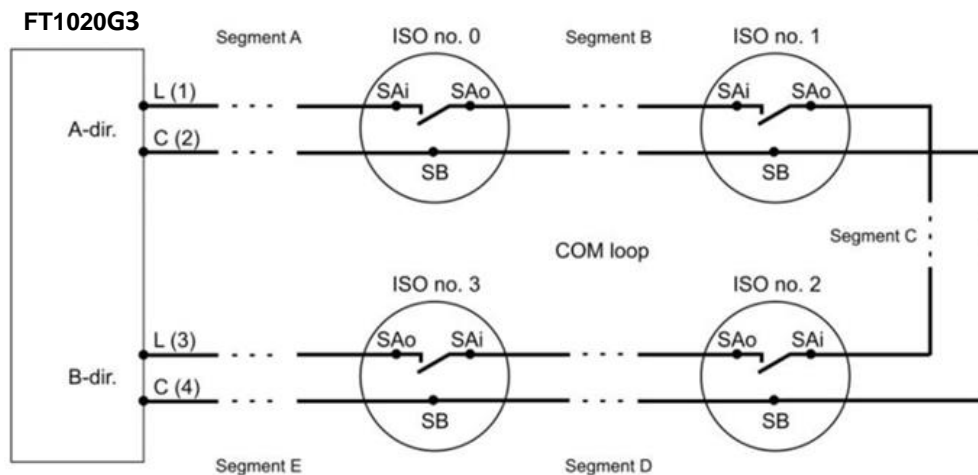

Figure 33 Short circuit isolators example in FT1020G3
- The Control Unit algorithm will now try to re-enable the first isolator in the B-direction (ISO no. 3 / sequence no. 3 in Figure 33). If this is possible, the next isolator in the B-direction, and so on.